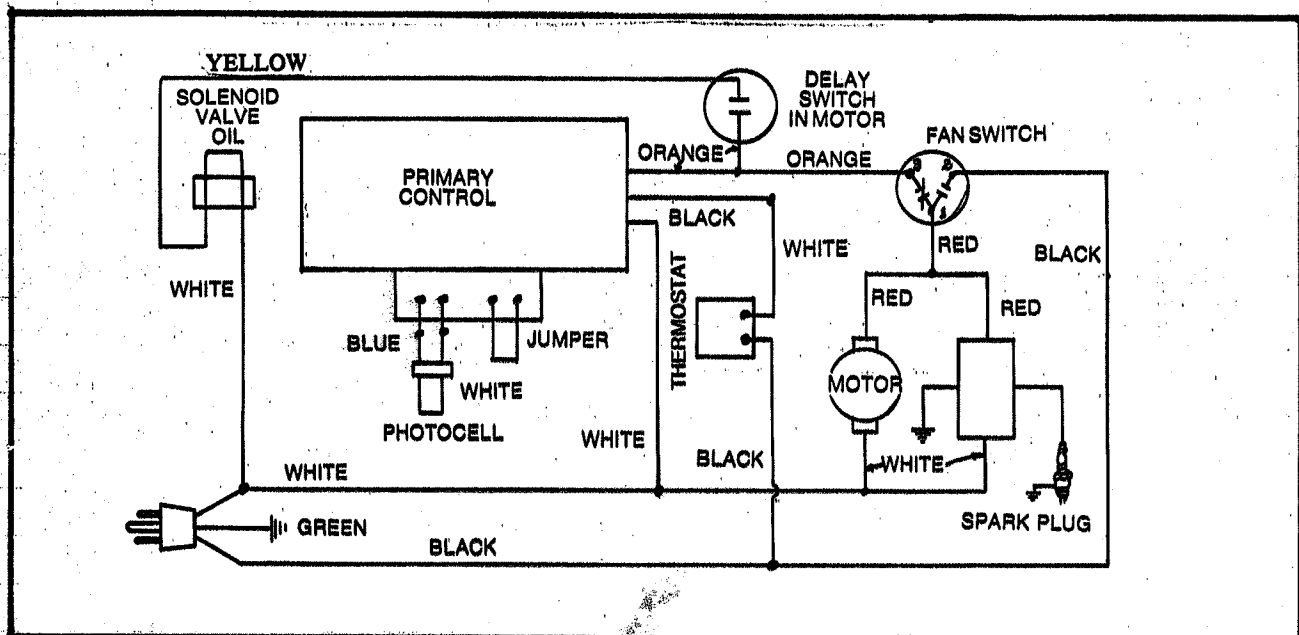

Figure 1. Wiring Diagram
The following is a description of the normal automatic operating sequence of the heater (See the Wiring Diagram, Figure 1)
Test fire the heater to make sure it will function properly. If it does not, check all wiring connections according to the wiring diagram, Figure 1.
7. After replacing control system components, test fire the heater to make sure it will function properly. If it does not, check all wiring connections according to the wiring diagram, Figure 1 Repeat the testing procedure if necessary.
Improperly wired after servicing.	Check wiring according to Wiring Diagram, Figure 1.